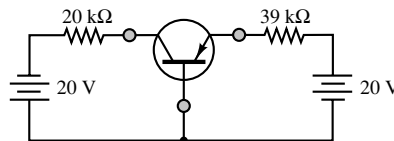

Figure P10.7
- 10.7** Given the circuit of Figure P10.7, determine the emitter current and the collector-base voltage. Assume the BJT has a 0.6-V offset voltage at the *BE* junction.
- 10.8** If the emitter resistor in Problem 10.7 (Figure P10.7) is changed to 22 kΩ, how does the operating point of the BJT change?